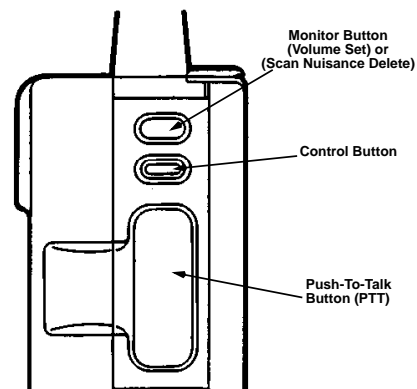

Figure 4.
2. Listen for a transmission or hold the MONITOR BUTTON to hear back-ground noise. Adjust the VOLUME CONTROL to a comfortable listening level. (See Figure 4.)